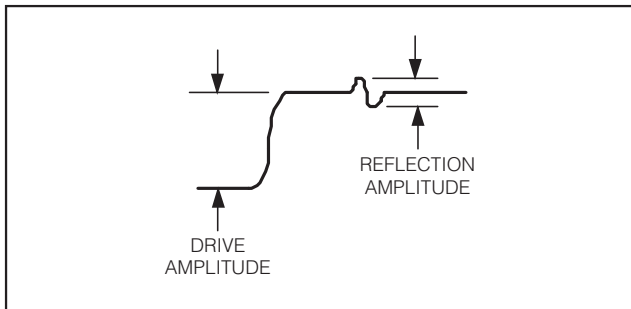

図1. TDRリターンロス
**Note 6:** Output return loss by time domain reflectometry (%) =  $100 \times (\text{reflection amplitude} / \text{drive amplitude})$ . See Figure 1.